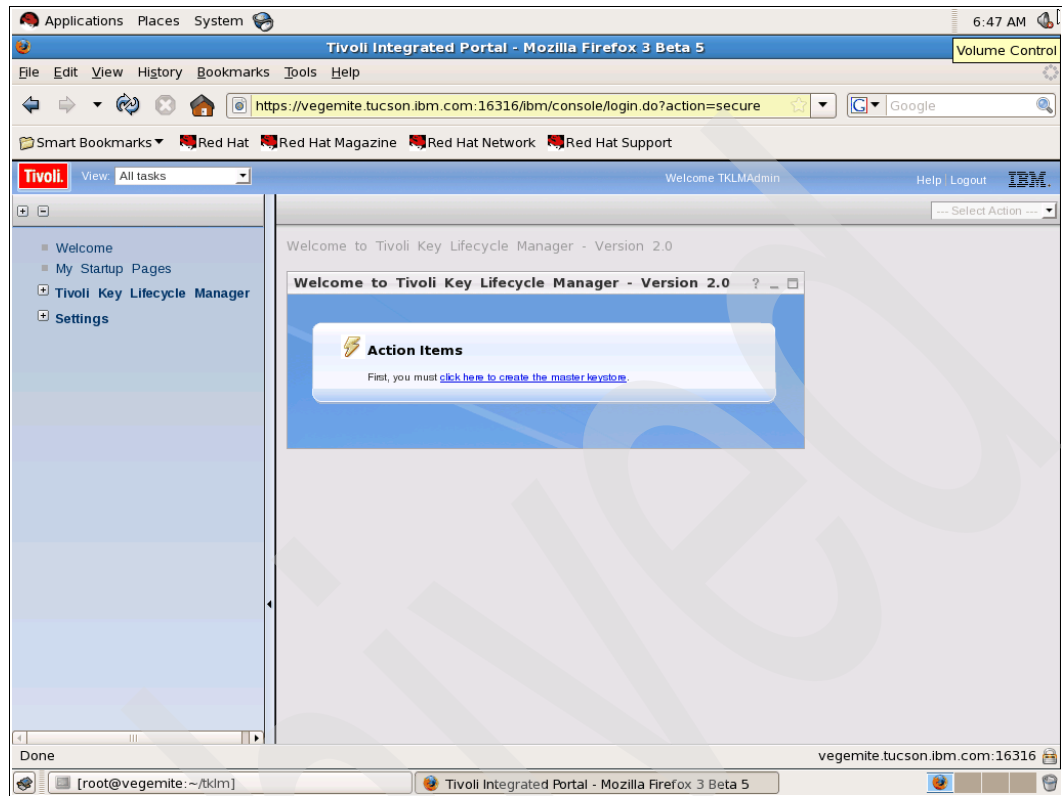

Figure 7-22 TKLM v2 welcome screen
25. A welcome window is displayed with an action required (Figure 7-22). Click the area indicated in the **Action items** box to create the master keystore.